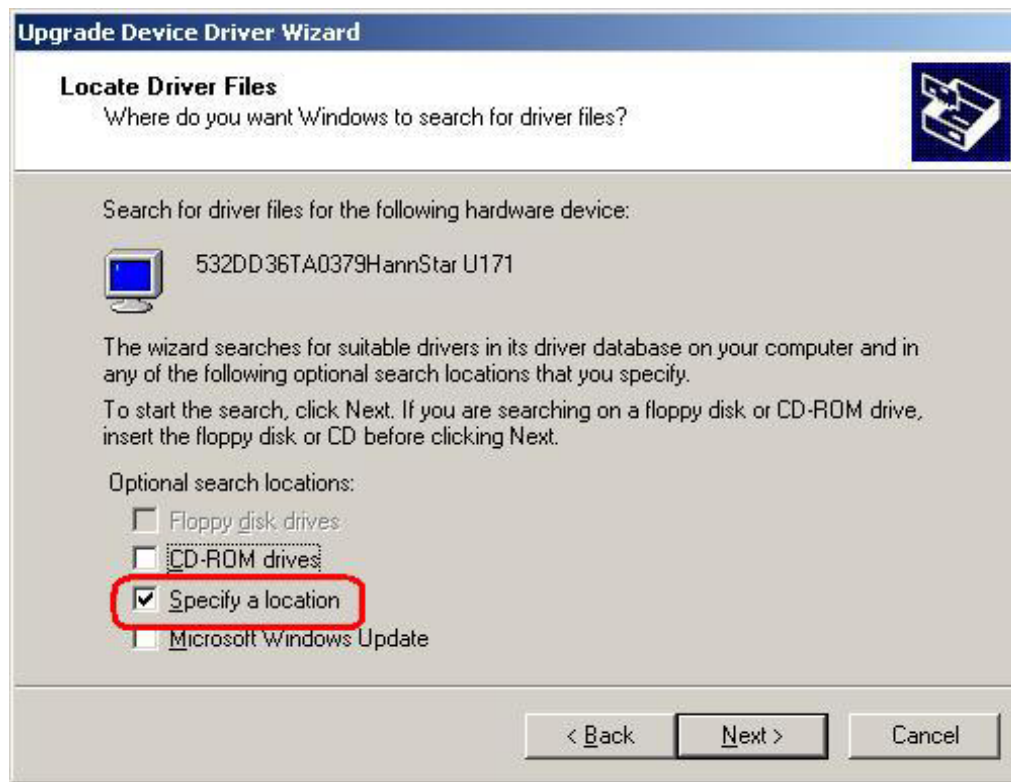

Figure 6-36: Locate Driver Files
- Step 7:** Select **“Specify a Location”** in the **Locate Driver Files** window (**Figure 6-36**).